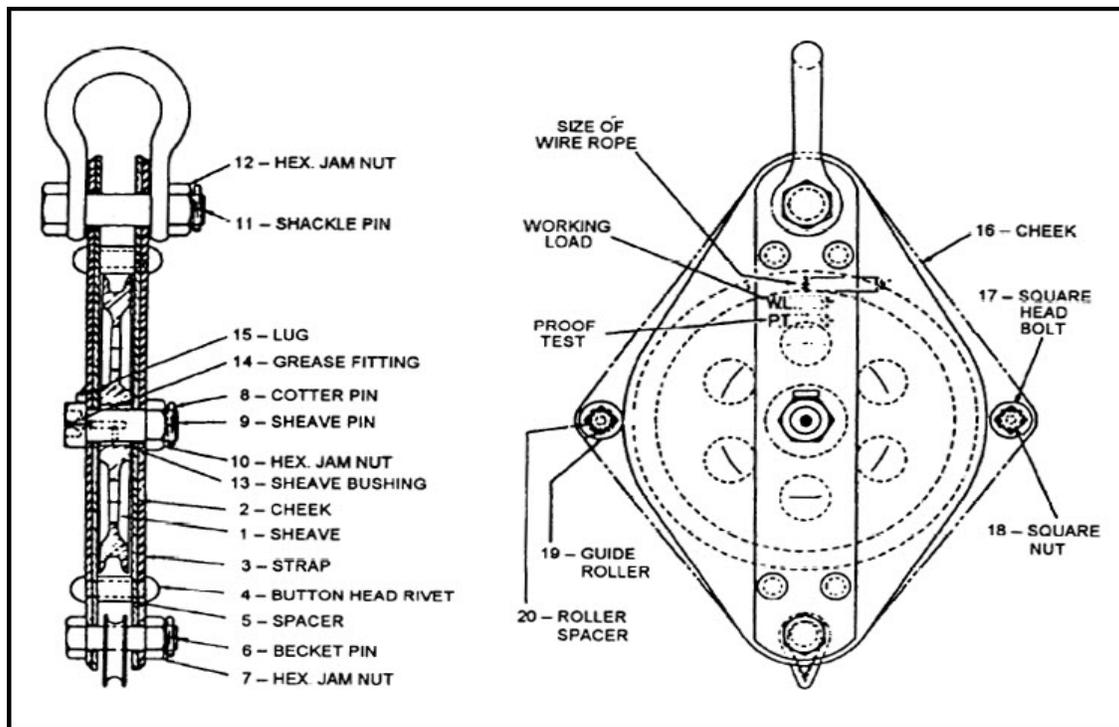

Figure 8-3 Diamond block
The three types of cargo blocks most frequently seen on naval ships are the diamond, oval, and roller bearing. An example of the diamond block is shown in figure 8-3. The figure shows a single-sheave block, but there may be more sheaves, depending on how the block will be used. Sheave bushings for this type of block are usually of a high-grade bronze alloy; the pins are equipped with grease fittings (see item 14 in fig. 8-3). Oval blocks are built to the same specifications as diamond blocks except that the cheeks are oval instead of diamond-shaped. The most common use of these two blocks is for topping lifts of cargo booms.